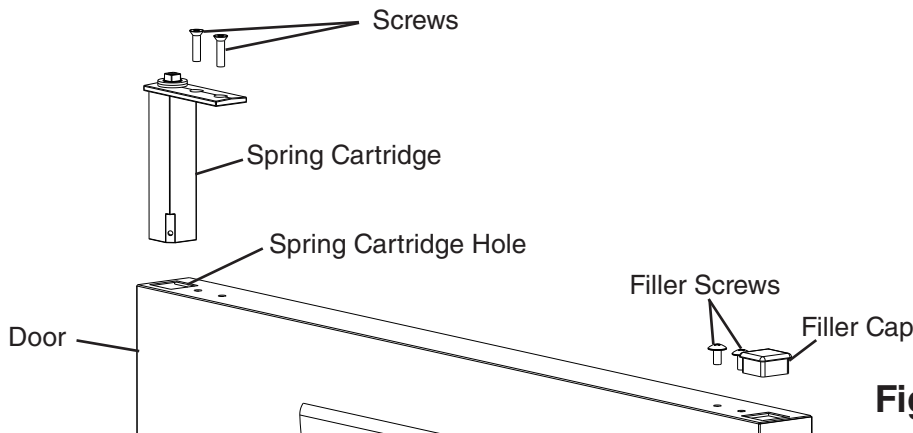

Fig. 13
- 9) Clear foam from the spring cartridge hole to allow for spring cartridge installation. See Fig. 13. Install the spring cartridge in its new location. Reinstall the filler cap and filler screws on the opposite side of the door.